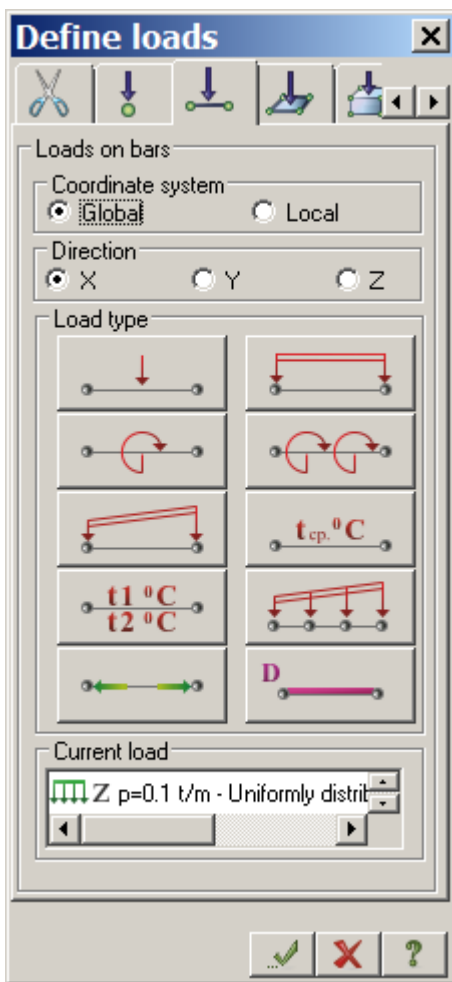

Figure 8.19 Define loads dialog box
- ⇒ Specify direction of load along the X-axis (see Fig.8.19).